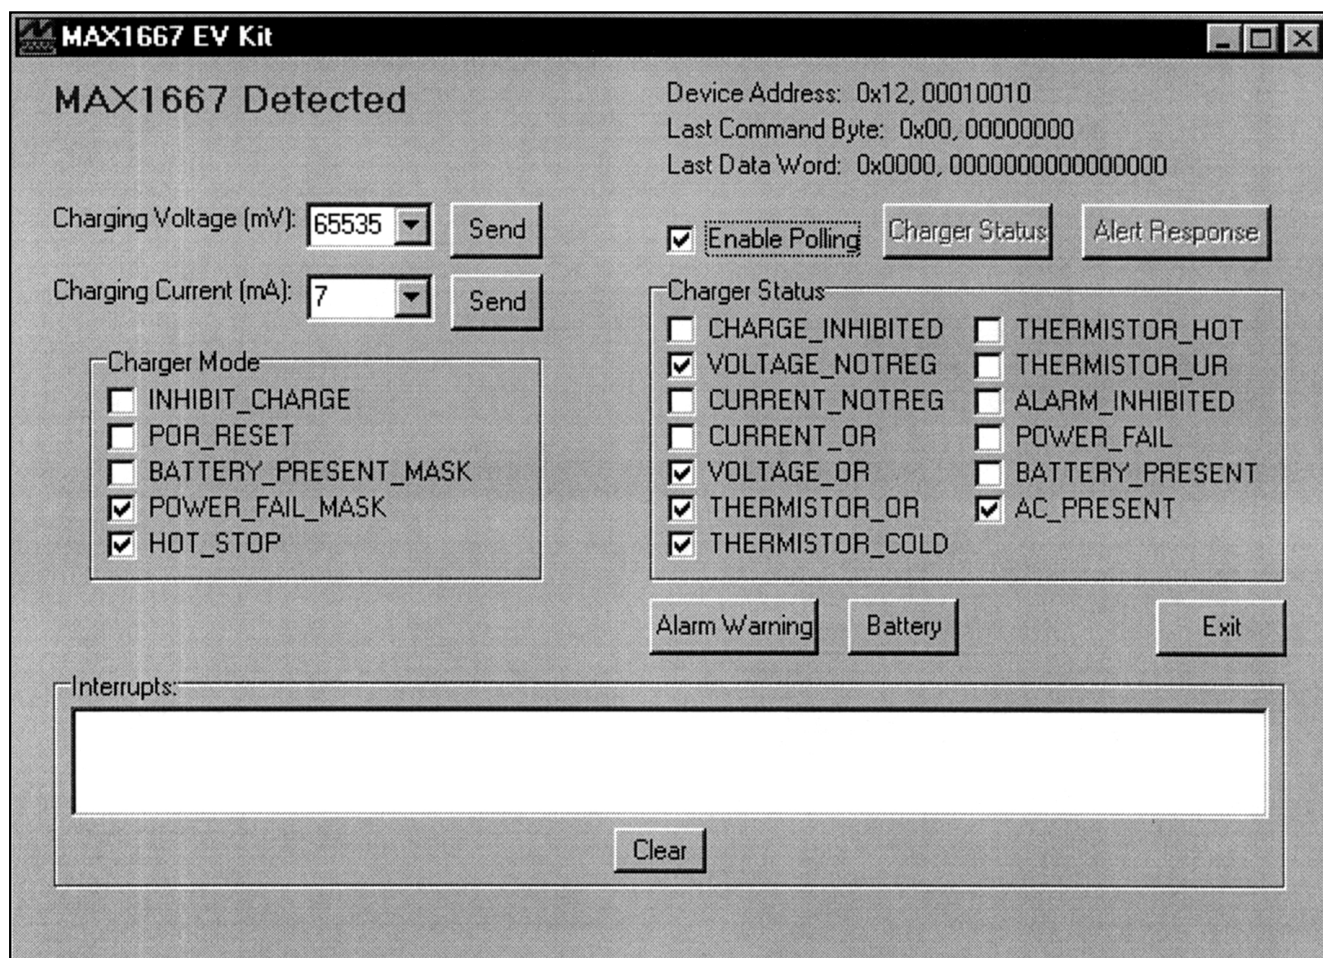

Figure 2. MAX1667 EV Kit Software Command Panel
- 8) The software command panel should appear (Figure 2). Verify that Charging Voltage = 65535mV, Charging Current = 7mA; POWER_FAIL_MASK, HOT_STOP, and Enable Polling are checked; and the following checkboxes are checked in the Charger Status panel: VOLTAGE_NOTREG, VOLTAGE_OR, THERMISTOR_OR, THERMISTOR_COLD, and AC_PRESENT.
Upon execution of the MAX1667 program, the software automatically resolves the SMBus address of the device. The software enables the command panel (Figure 2), after which the user may issue any of the allowed SMBus commands to the MAX1667. Refer to the MAX1667 data sheet for more information regarding the allowed SMBus commands.